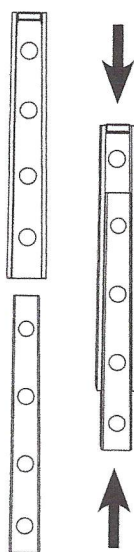

Figure 1
2. This chair is held together by use of **interlocking wedge** hardware, as shown in figure 1.
2. These chairs are held together by use of **interlocking wedge** hardware, as shown in figure 1 on opposite side of this sheet.